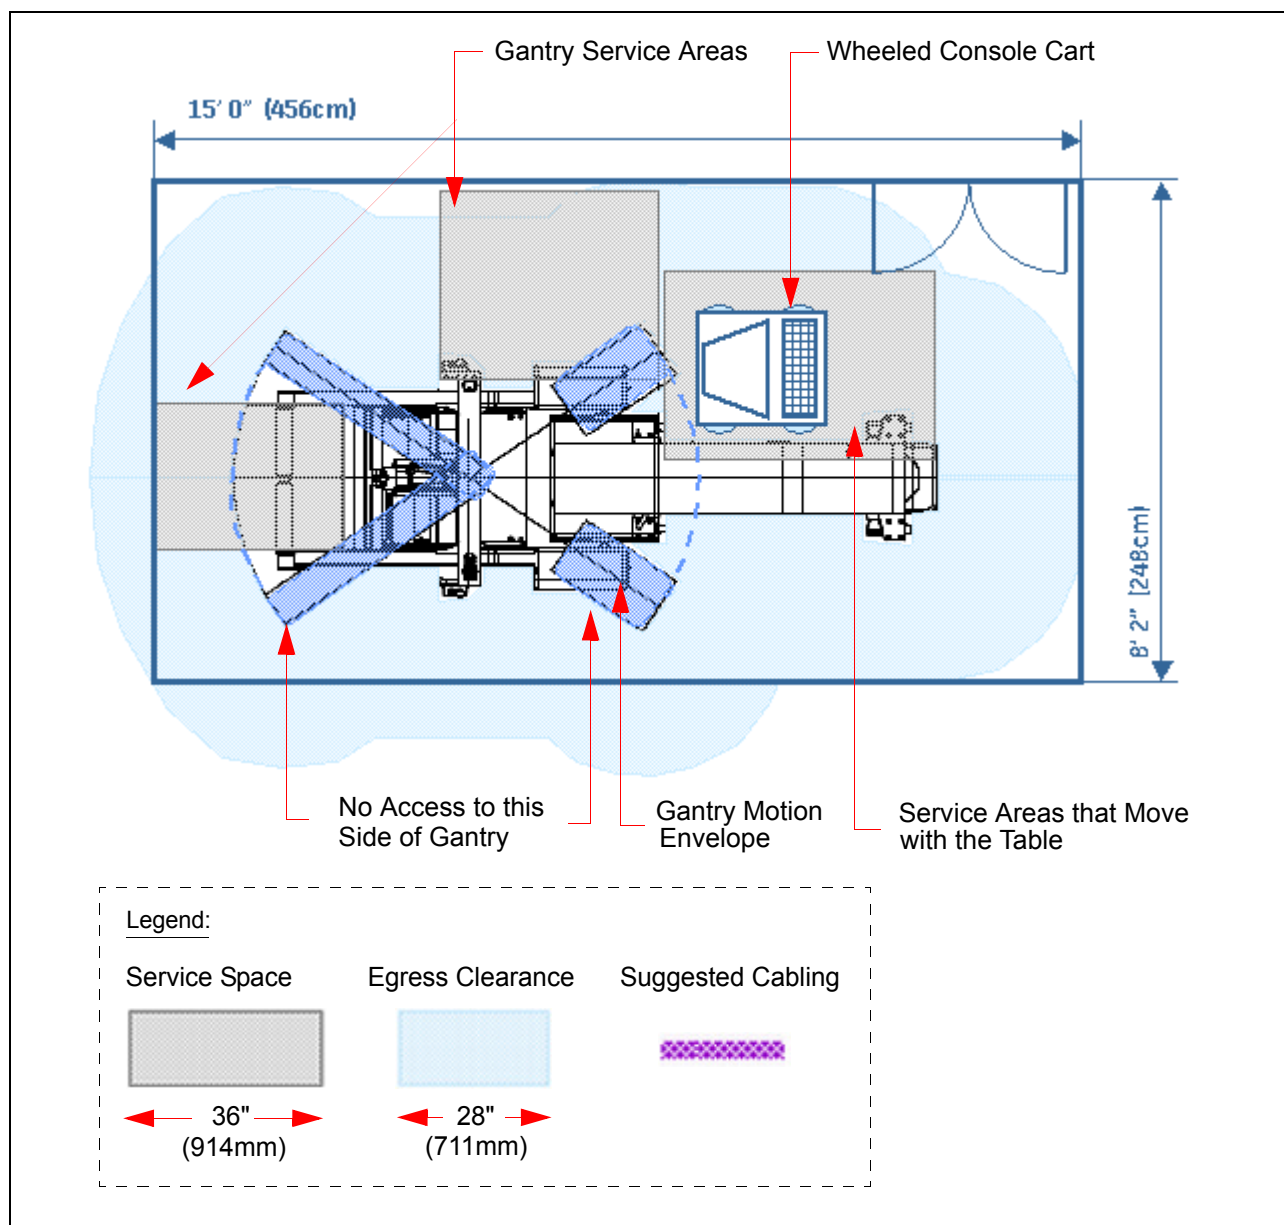

Figure 3-5: MPS (1-axis Table) Minimum Layout
Figure 3-5 shows a minimum room layout drawing showing location of all basic units for a Millennium MPS (1-axis) system. Observe that the dimensions given are for installation of the system only, requirements for clinical access, and for peripheral clinical equipment placement, such as storage cabinets, sinks, etc., must be taken into considerations during the room layout.
- All gantry service done on either side as shown in Figure 3-5.
- Table movable for service access, as shown in Figure 3-5.